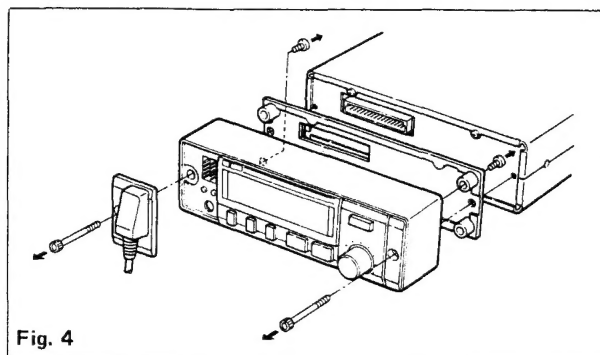

Fig. 4
- 1) Remove the two hex socket screws from the front panel, and remove the CONTROL HEAD. (Fig. 4)
- 2) Remove the two screws from the back of the CONTROL HEAD, and remove the control head cover. (Fig. 4)